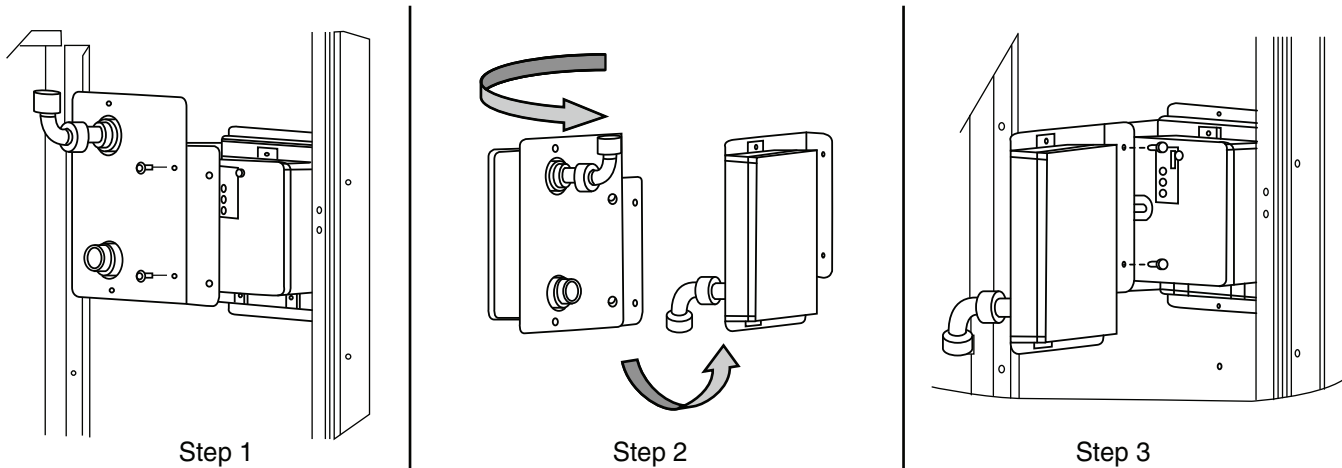

Fig. 60 — Completing Installation of Return Air Smoke Sensor
1. Unscrew the two screws holding the return-air smoke detector assembly. See Fig. 60, Step 1.
3. Turn the assembly 90 degrees and then rotate end to end. Make sure that the elbow fitting is pointing down. See Fig. 60, Step 2.
4. Screw the sensor and detector plate into its operating position using screws from Step 1. See Fig. 60, Step 3.